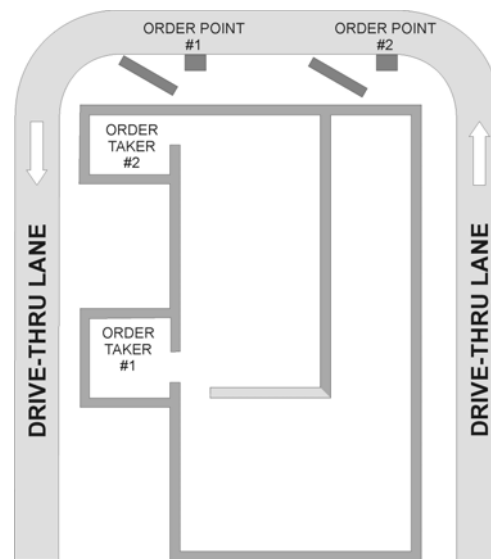

Figure 8. Typical Tandem drive-thru
- Look for the Switcher Board shown in Figure 8. If there is no Switcher Board, it will not be possible to use a wired backup system.